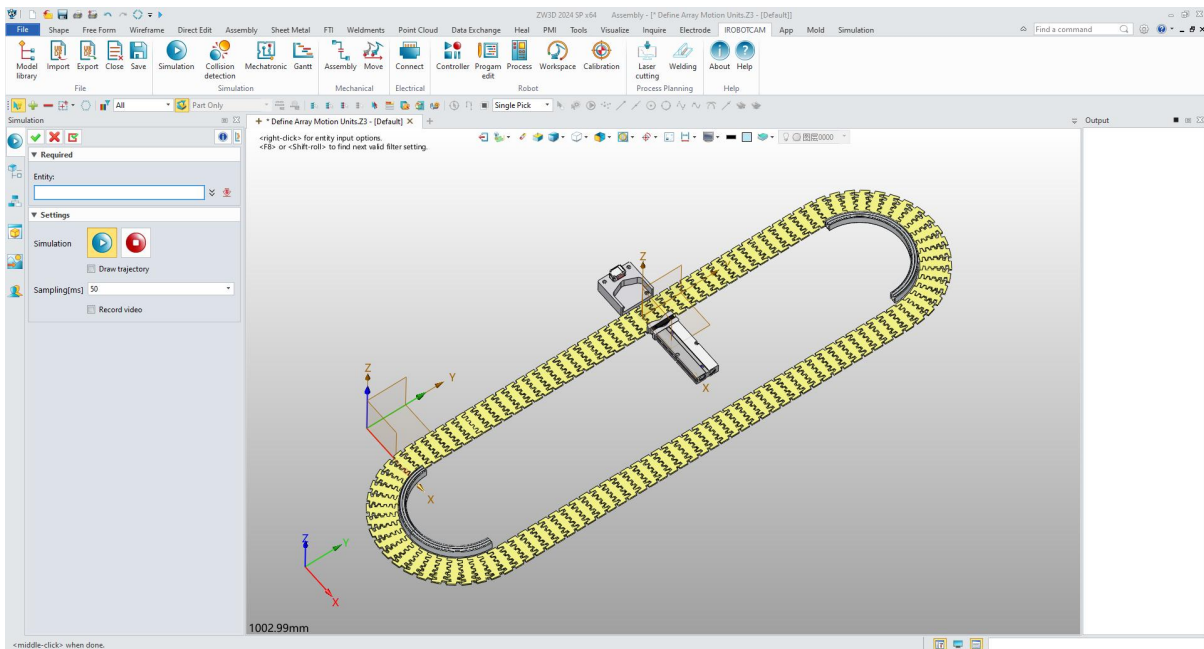

Figure 7-19: Simulation Verification
- Click the "Start Simulation" button within the "Simulation Control" window to initiate the simulated motion of the conveyor belt. (Figure 7-19)